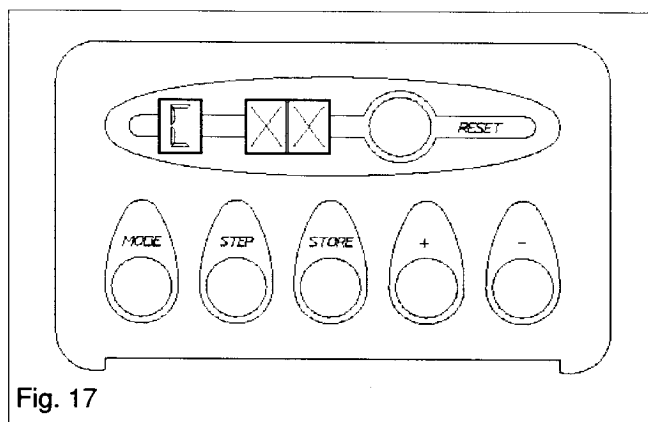

Fig. 17
- Press and hold the MODE and STEP buttons simultaneously, LED 1 should now show "C" (see fig. 17).